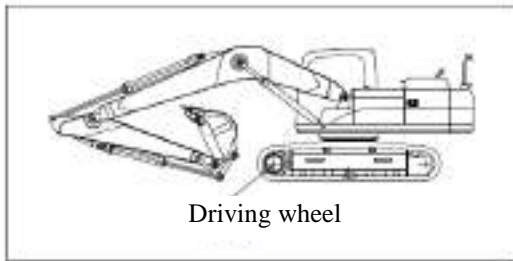

Figure 6-8 Correct posture before hoisting machine
- b). Fully extend the bucket cylinder and arm cylinder, and then use the boom cylinder to lower the working device down to the ground, as shown in Figure 6-8.